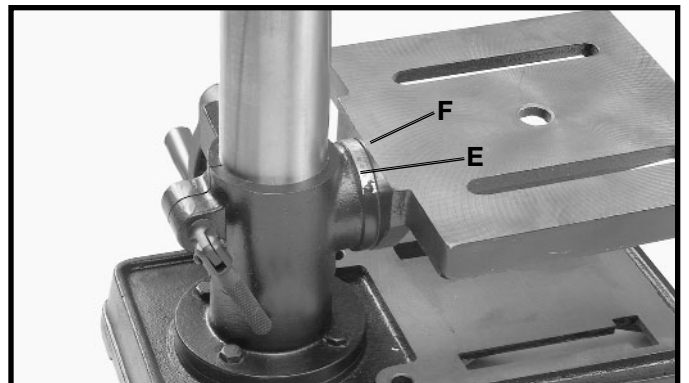

Fig. 27
5. A tilt scale (E) Fig. 27, is provided on the table bracket casting to indicate the degree of tilt. A witness line (F) is also provided on the table to line up with scale (E).